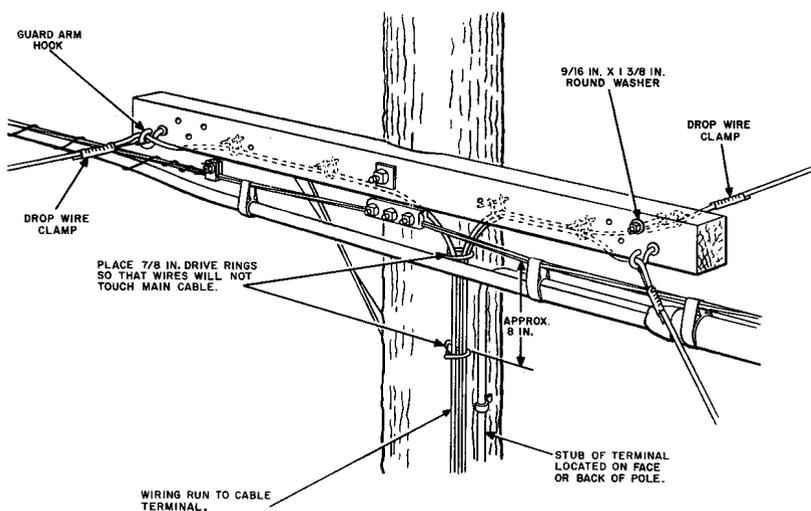

FIGURE 4. Cable Terminal Mounted on Face or Back of Pole
3.01 Distribute drop wires from a guard arm as shown in Figures 4 and 5.